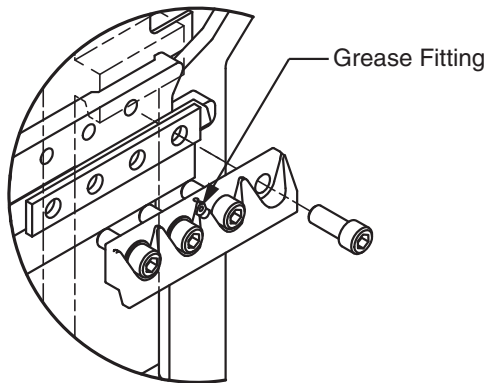

Figure 3-2, Mounting
7. Slowly raise the truck carriage completely to engage the bolt-on top hooks (See Figure 3-2) with the truck carriage. Tilt carriage back until the unit is against the carriage bottom fork bar (0 degrees).